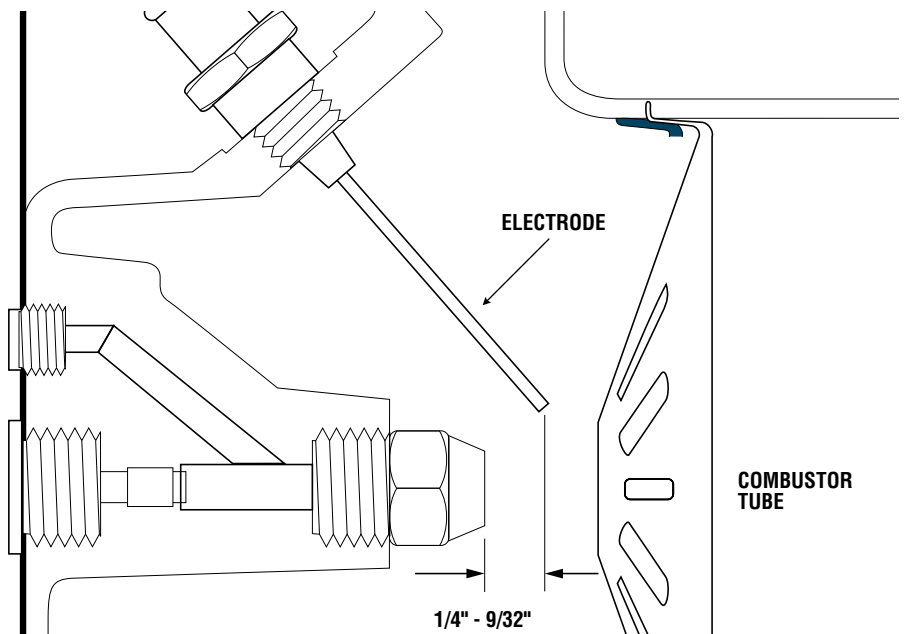

Figure 5-13 Electrode Gap Detail
- Remove three (3) bolts from the fan end and open up heater.
- Check electrode gap as per Figure 5-13.
- Reinstall fan end and torque three (3) bolts to 75 ± 5 in/lbs (8.5 ± 0.5 Nm).